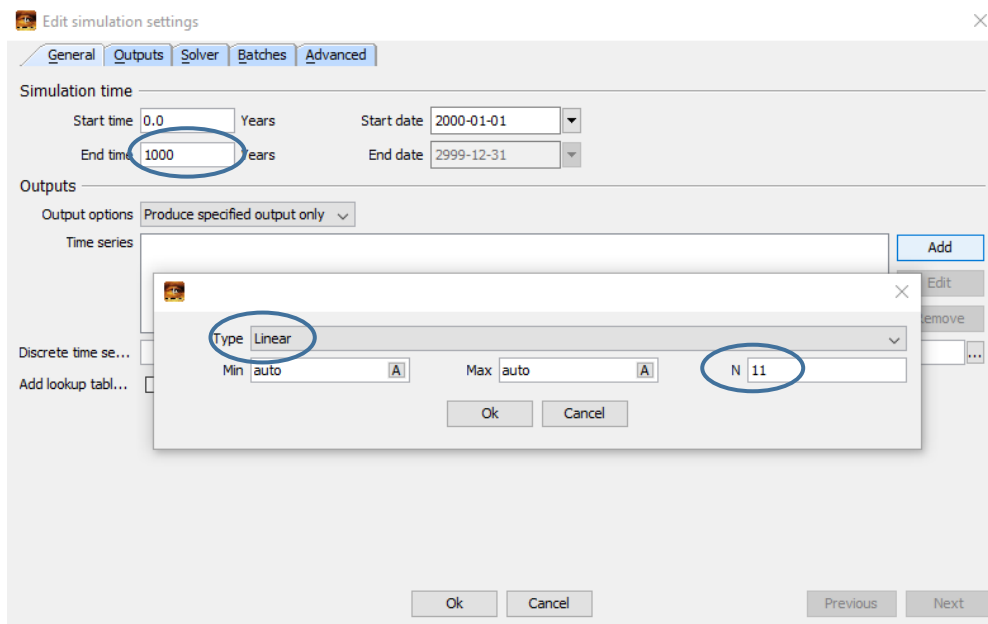

FIG 14. Adjusting of the ‘*Simulation time*’ and ‘*Outputs*’ parameters.
2. Set ‘*End time*’ to 1000.0 (‘*Years*’) (FIG 14).
4. Press ‘*Add*’ button at the right side of the ‘*Outputs*’ window, choose ‘*Linear*’ type of output in the menu that appears, and set ‘*N*’ parameter specifying the number of output times to “11” (see FIG 14). (The output time step is calculated as (‘*Start time*’ – ‘*End time*’)/(*N*-1)). Press ‘*Ok*’ button to close the window (s).